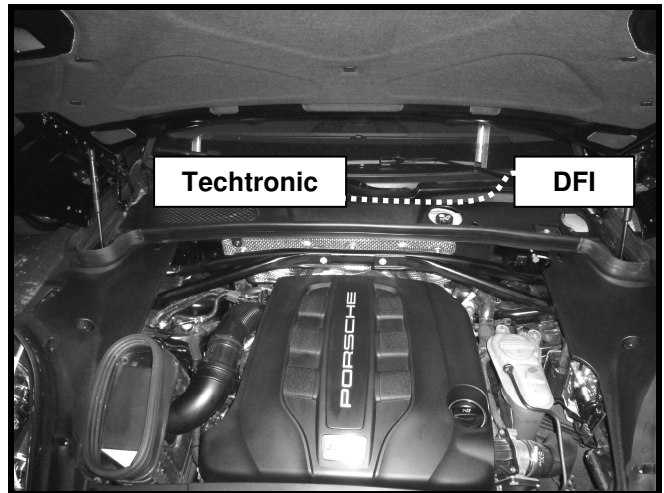

Fig. 04
- 1 Lay the pin-cable set inside the vehicle (see Fig. 04)